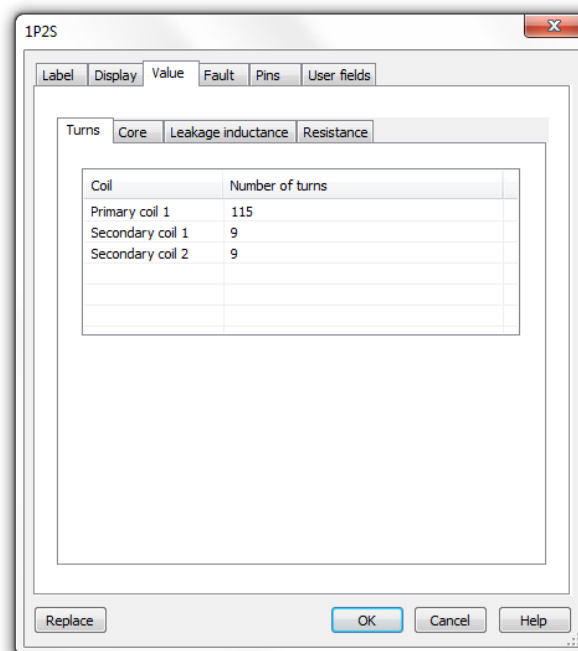

Figure 7 – Transformer Properties
- c. **Double-click** the transformer to change its turn ratio as shown below in **Figure 7**.